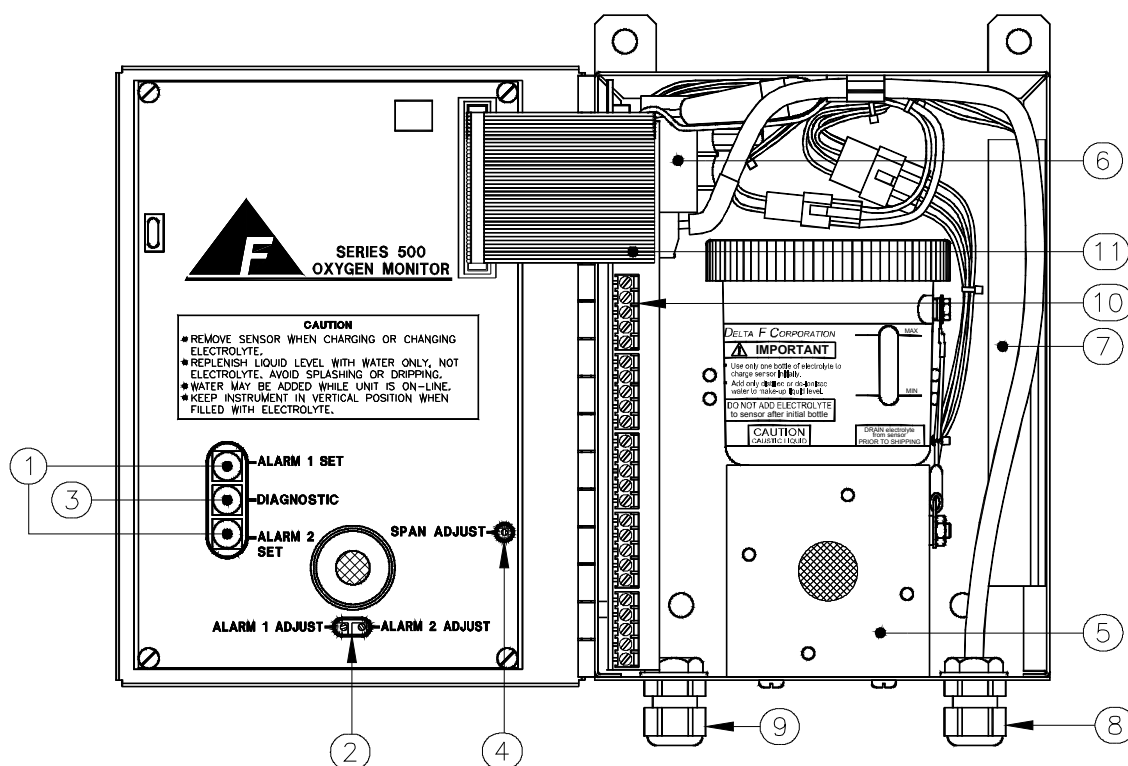

Figure 2: Major Internal Components
Adjust the span pot, item 4 in Figure 2, to achieve a display of 20.9%
1. Push the desired "Alarm Set" button on the back of the monitor door (item 1 in Figure 2). The display will show the current setpoint.
2. Adjust the indicated setpoint (item 2 in Figure 2), using a small screwdriver, until the display shows the new setpoint.
3. Push the "DIAGNOSTICS" button (item 3 in Figure 2). The monitor will beep and return to normal operation.
Additional controls, including alarm adjustments and diagnostic checking, are located on the back of the door. (Refer to Figure 2.)
- On the rear of the door there are three push button switches labeled ALARM 1 SET, DIAGNOSTICS, and ALARM 2 SET. Press ALARM 1 SET to enter the alarm setting mode. See Figure 2.